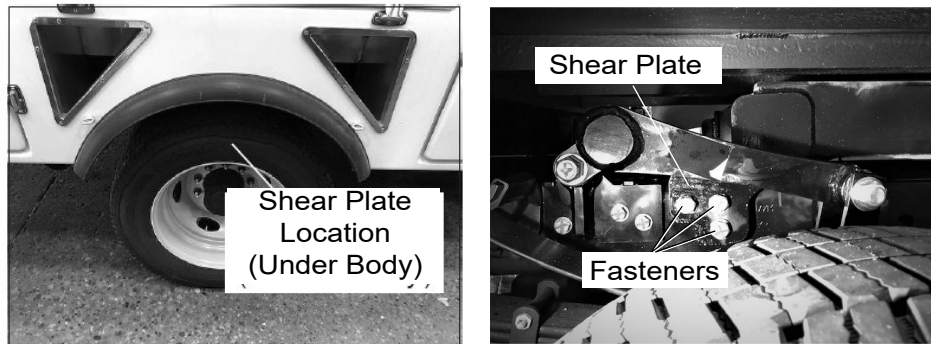

Figure 1 — Shear Plate Location
2. Locate the rear shear plates on both sides of the subbase, visible inside the rear wheel wells (refer to Figure 1).